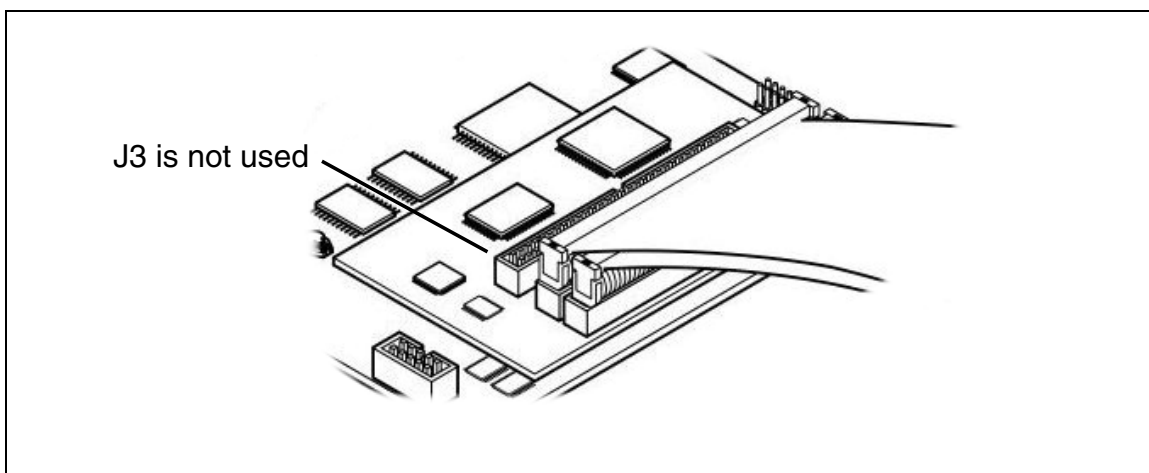

Figure 5: Connecting the two 50-pin flat cables to the TEB
- 2 Connect the two 50-pin flat cables to the J1 and J2 connectors on the ST7MDT20-DVP3 TEB as shown in *Figure 5*. Note that the J3 connector is not used.